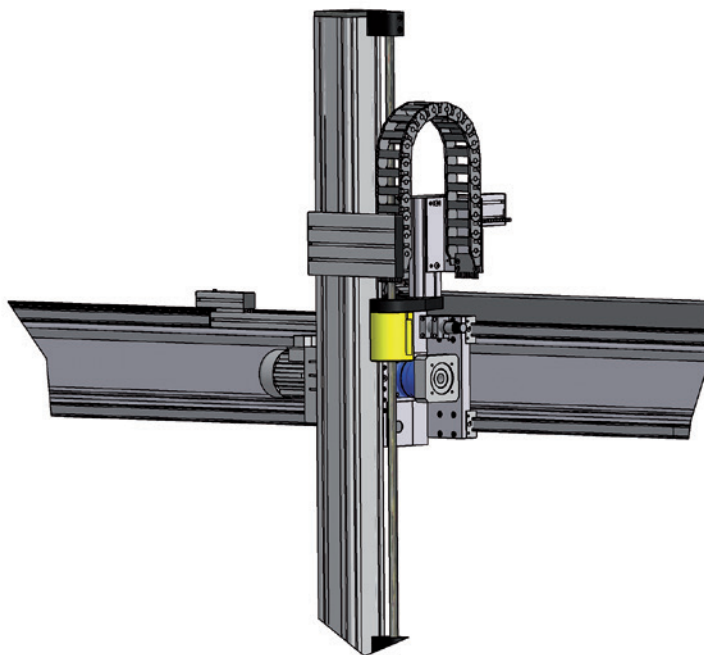

Figure 8.1 \_\_\_\_ Lifting - Axis with safety break
- Safety break (Chapter 6.9) for vertical axis (Figure 8.1)